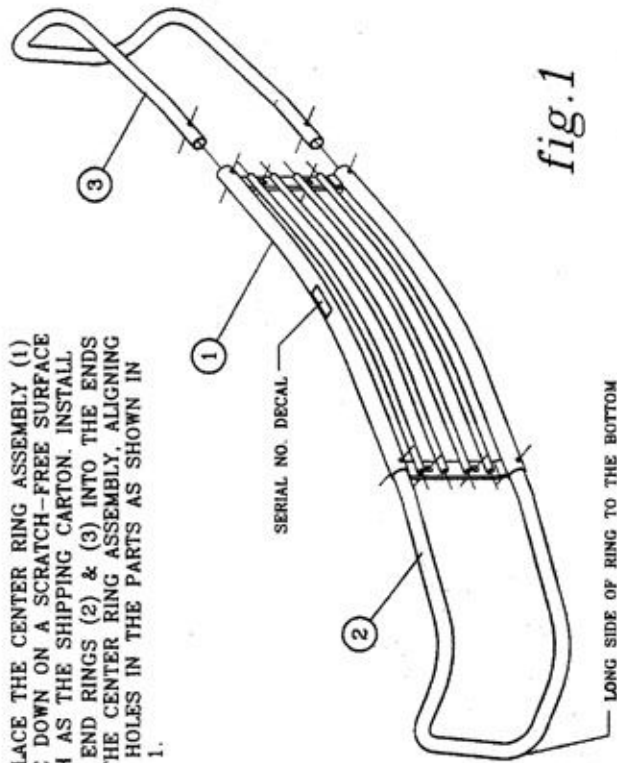

fig.1
2. PLACE THE CENTER RING ASSEMBLY (1) FACE DOWN ON A SCRATCH-FREE SURFACE SUCH AS THE SHIPPING CARTON. INSTALL THE END RINGS (2) & (3) INTO THE ENDS OF THE CENTER RING ASSEMBLY, ALIGNING THE HOLES IN THE PARTS AS SHOWN IN FIG. 1.